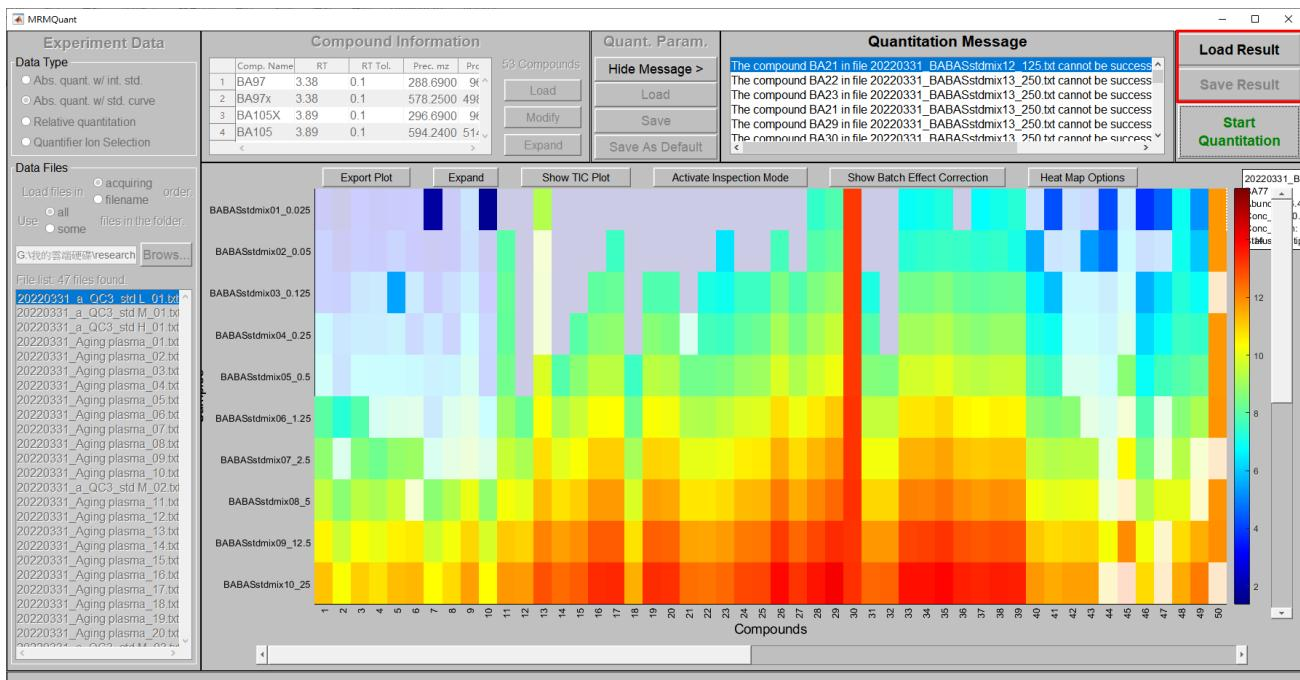
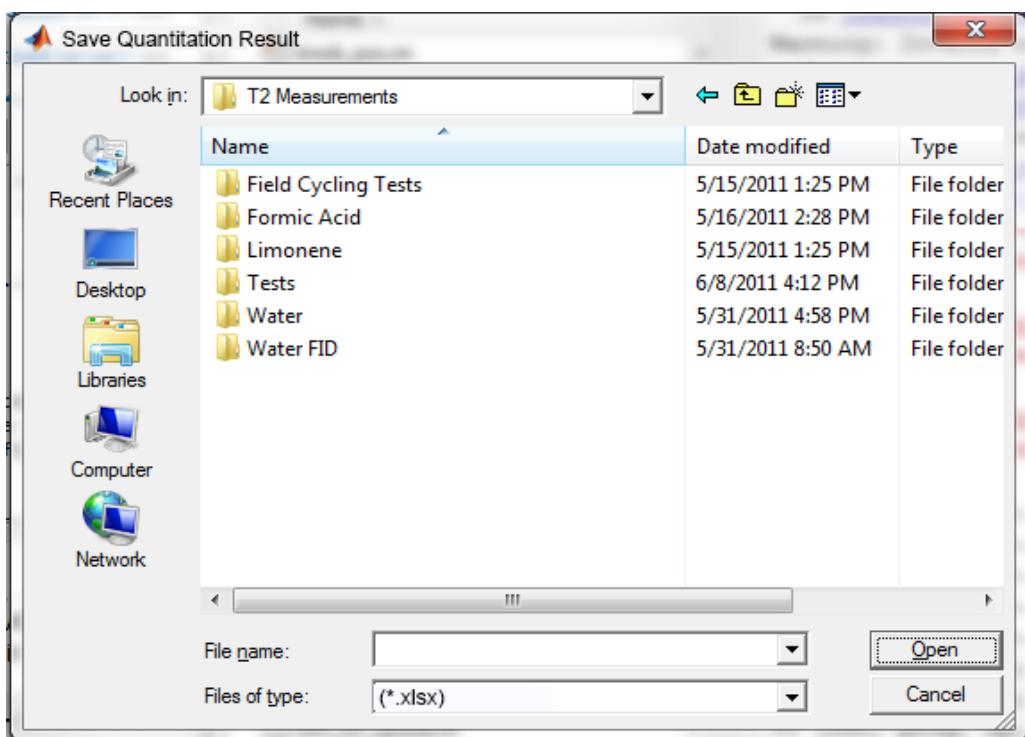

Figure 53. The load result and save result button in the GUI for the user to save a corrected result or to load an existing result manually.
Figure 54. The window allows the user to save the quantitation result to a MS Excel xlsx file.
**14 Input/Output the quantitation result:** When the quantitation process is completed, a window will appear to ask the user to provide the path and the file name to save the quantitation result. In addition, the user can save the result manually using the “Save Result” button at the upper right corner of the GUI, especially when a correction is made, as shown in Figure 52. The quantitation results are saved in a Microsoft Excel file in the xlsx format, as shown in Figure 53. The results include peak abundance, quantitation status, and RT. If absolute quantitation is performed, the peak concentration is included. In addition, if absolute quantitation is achieved by SC, the peak abundances of the standards and coefficients of the regression formula for SCs are also included. All the above information is saved on a separate sheet in the Microsoft Excel file. For easy access to existing quantitation results, a MATLAB mat file with the same name as the Excel file will also be generated for future inspection and modification. However, it should be noted that when the mat file is larger than 2GB, the save time can increase considerably. If the quantitation mat file is larger than 2GB, a warning message will appear to warn the user for long saving time, as shown in Figure 54. It is highly recommended that the user saves such a file in local drive (e.g. drive C or drive D). Saving large mat files to cloud drive can take a very long time. Furthermore, the user can load the mat file into MRMQuant using the “Load Result” button at the upper right corner of the GUI to inspect and correct the existing quantitation result, and apply different parameter settings to re-compute the entire quantitation result.